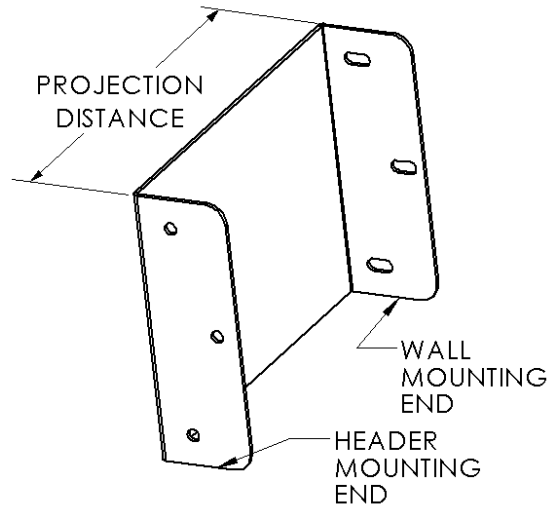

Figure 2 HEADER BRACKET
2. Locate two (2) Header Brackets and measure to the outer edges. Note this dimension for the next step. (Figure 2 HEADER BRACKET)